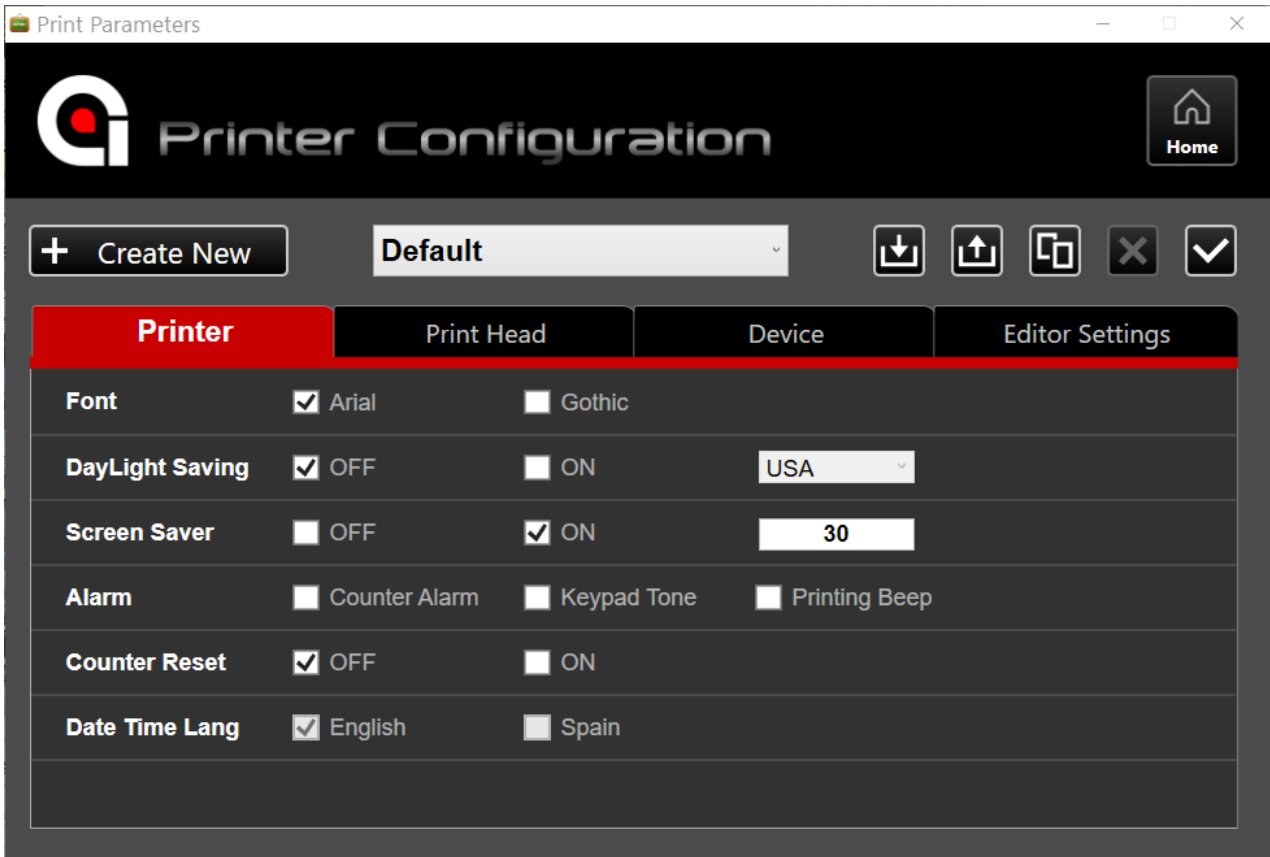

Figure 3-9
Step1: At the main menu, click  to open “Upload to Printers” window. (Figure3-9)